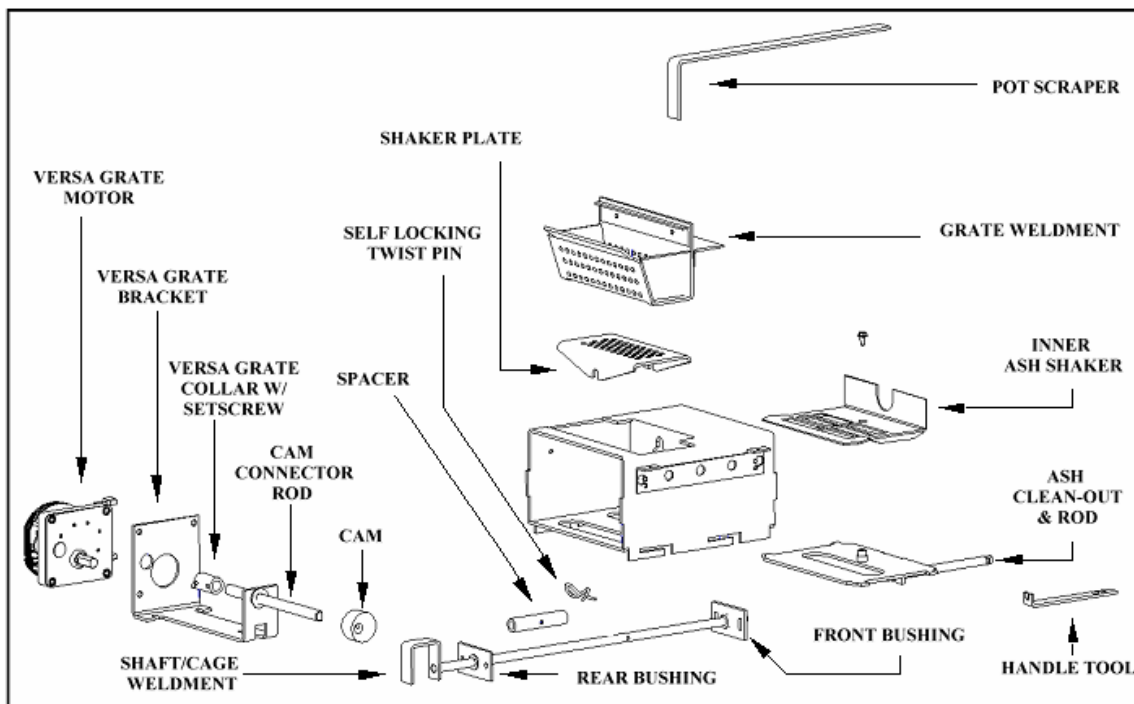

Figure 5
The Versa Grate System (see Figure 5 below). The benefit of this feature is that the stove can operate for longer periods of time, with most
First, let's become familiar with the burn system in a St. Croix Pellet stove. Remember, cleaning frequency may change dramatically from one fuel to another. Pellets with high ash content or that have increased amounts of impurities or high moisture content. Every St. Croix Pellet stove model will have the same system as shown in figure 5 below. There is a 2-piece burnpot. The top Part is called the **"Grate Weldment"**. This sits on top of the **"Shaker Plate"**. This in turn sits on top of the **"Shaft/Cage Weldment"** and is held in place with the **"Spacer"** & **"Self Locking Twist pin"**. The Shaft/Cage weldment is moved towards the front of the stove and then towards the back of the stove by the **"Cam"** that is connected to the **"Versa Grate Motor"**. This motion is constant, while the stove is in operation. The only parts that may need to be removed for cleaning purposes during the Daily or Periodic Maintenance are the **"Grate weldment"** and the **"Shaker Plate"**. This is to check the holes in the burnpot system to see if they are plugged.
1. Check Grate Weldment and Shaker Plate (See figure 5) to determine if holes are plugged. Clean as needed. With proper precautions the grate may be partially cleaned while the stove is hot. Follow these steps:
- d. Use the “scraper” provided to move the burning pellets to one side of the grate, leaving the ash in the bottom of the grate. (See Fig 5 & 6)
Use scraper shown in figure 5 & 6 to scrape ash into ash pan. Use a vacuum (cold stove only) to thoroughly clean these areas.
3. Clean burn grate holes at least weekly. Remove the burn grate and use a small metal object to clean out plugged holes. (See fig. 5 on page 9.)